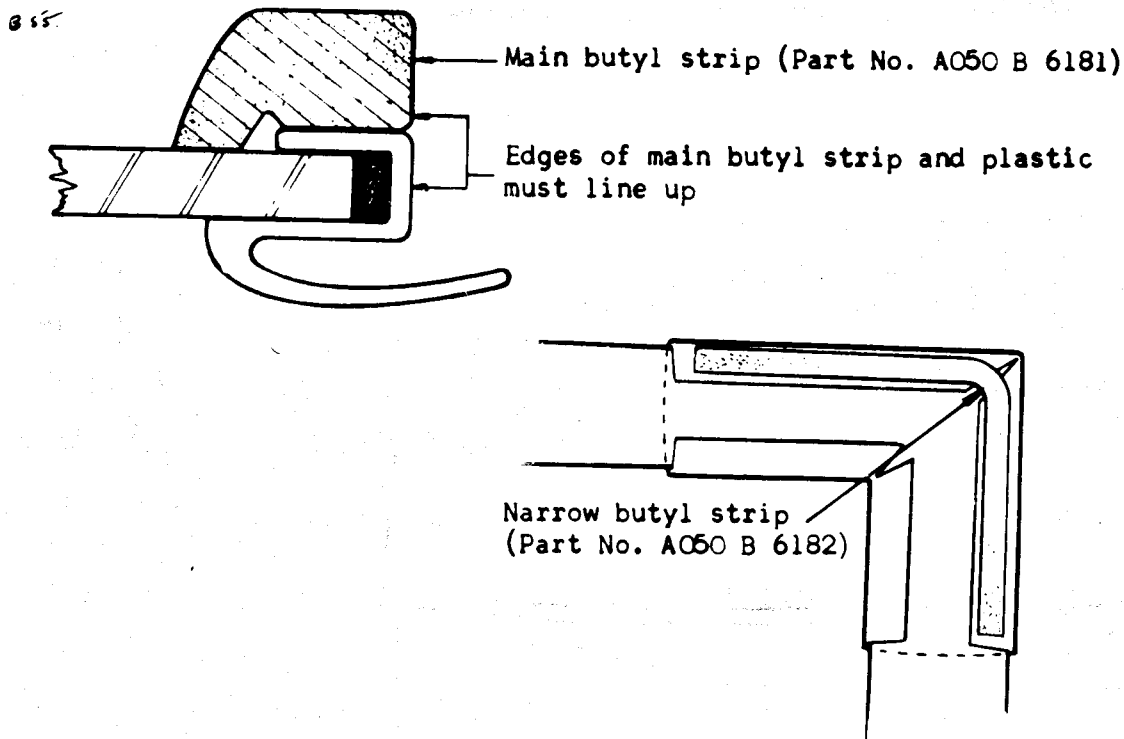

Fig. 21 - Showing main butyl strip in position and narrow strip on corner clips
17. Place the main butyl strip in position on the screen, ensuring that one leg is on the glass whilst the other leg is on the trim strip. The edge of the trim strip must be flush with the edge of the butyl (see Fig.21). Make the join in the butyl on one of the windscreen pillars, cutting at a 45° angle. Place narrow butyl strip on the rear of the corner clips.